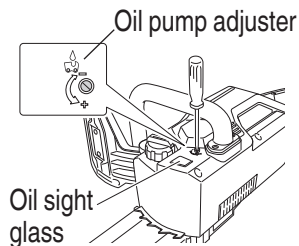

Fig. 18
- To reduce the discharge rate, turn the oil pump adjuster on the right side of the oil sight glass clockwise. (Fig. 18)